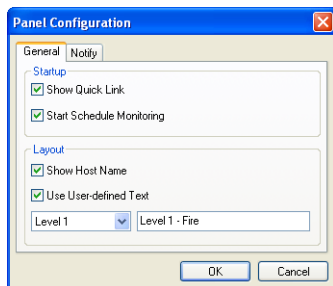

Figure 4-67
- To open the Quick Link window at panel startup, check the **Show Quick Link** option in Figure 4-67.